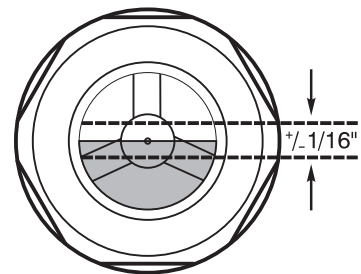

Figure 7. Sight glass
- 3) Using the supplied syringe and oil, slowly add oil until it is +/-1/16" of the center of the sight glass [Figure 7]. **DO NOT OVERFILL.** Only use Shell Morlina lubricating oil.